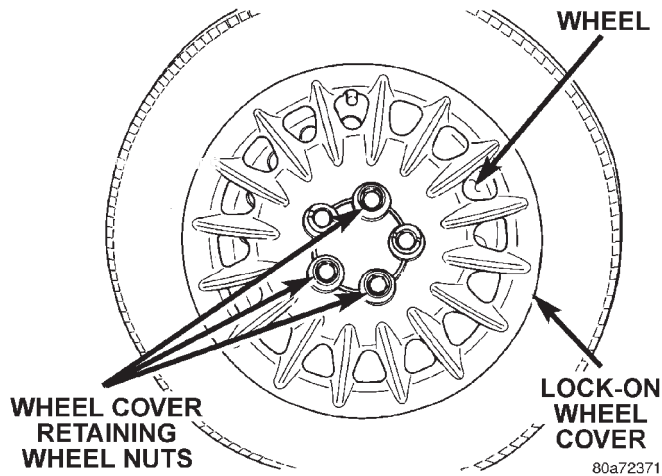

Fig. 11 Wheel Cover Locking Nuts
(1) Remove the three wheel nuts, (Fig. 11) used to lock the wheel cover to the wheel.